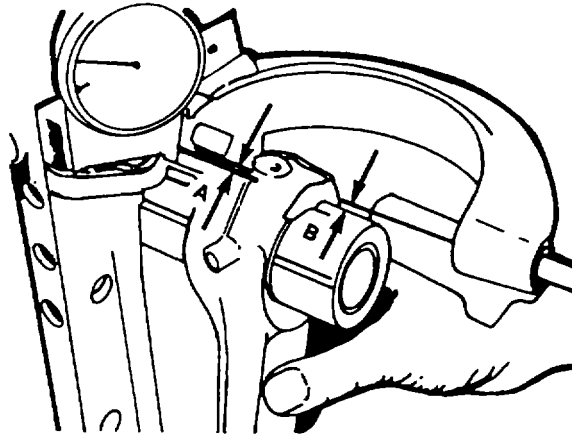

Figure 4-22. Checking Connecting Rod for Squareness
q. Check connecting rod for squareness; A and B should be equal (figure 4-22).